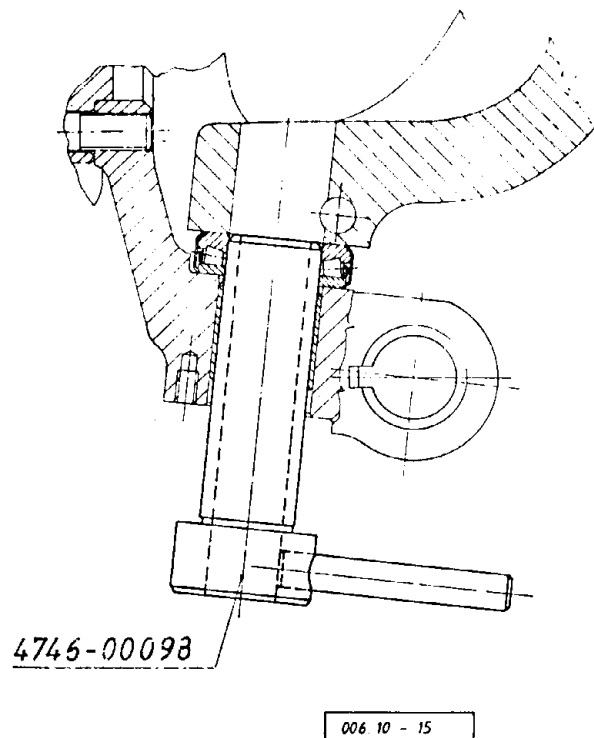

Fig. 2.: ASSEMBLING THE AXIAL BEARING OF THE
By means of the mandrel shown secure the axial bearing (66) until pulling off the steering knuckle (Fig. 2.).
By means of the lower service mandrel fit the axial bearing (**66**) to place shown in **Fig. 2.**, then push the service mandrel in to bottom out.